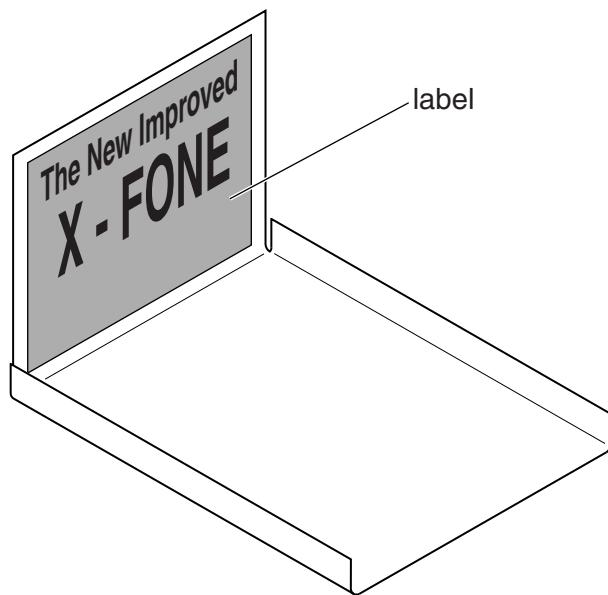

Fig. 6
- 19 Fig. 6 shows a leaflet holder made from thin plastic.
- (c) A logo is to be added to the label on the leaflet holder shown in Fig. 6.